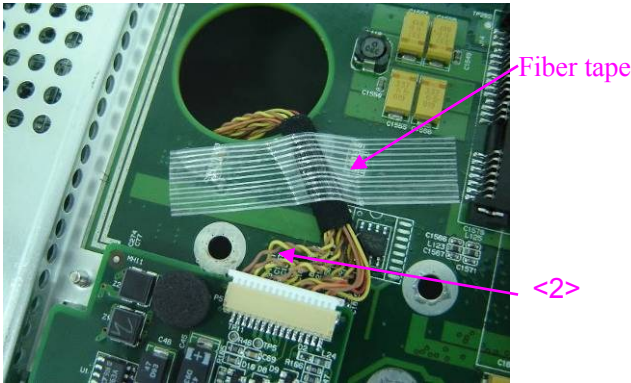

Figure 4-40
- B. Plug the other end of the 4D signal line to the probe board socket across the hole in the main board, and fix the cable using fiber cape and cable tie, as shown in figure 4-40.